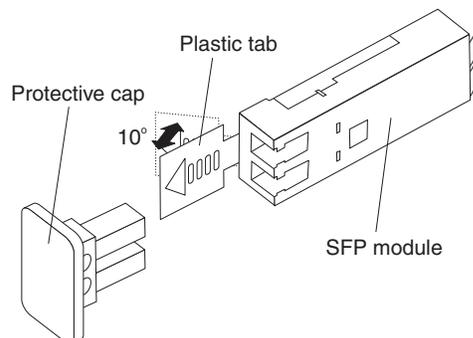

Figure 69. Unlocking the SFP module latch - plastic variety
- For SFP modules that contain plastic tabs, unlock the SFP module latch by pulling the plastic tab outward 10°, as shown in Figure 69.